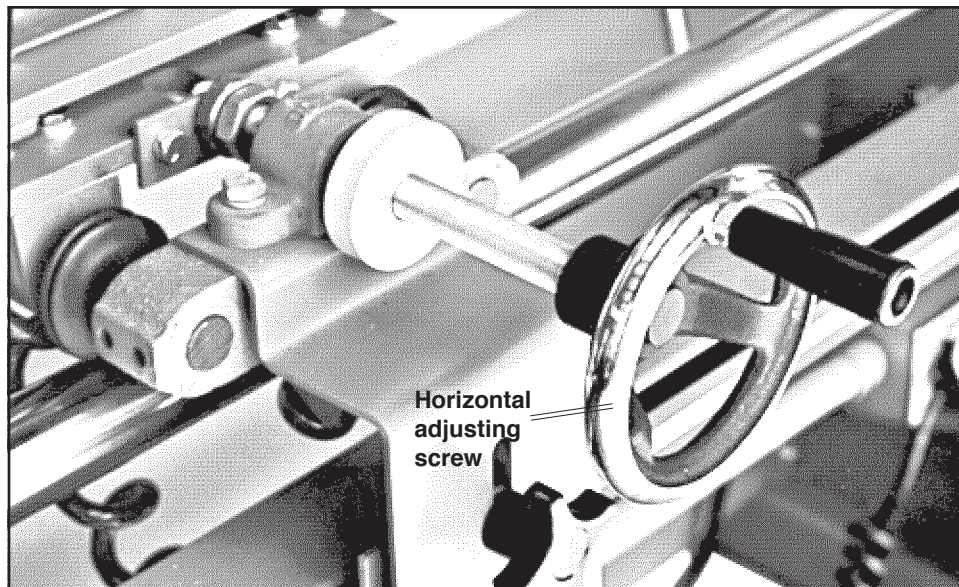

Figure 3.3 Grinding head horizontal adjustment
3.3.1 Adjust the grinding head to the center of its horizontal travel using its horizontal adjusting screw (see Figure 3.3).